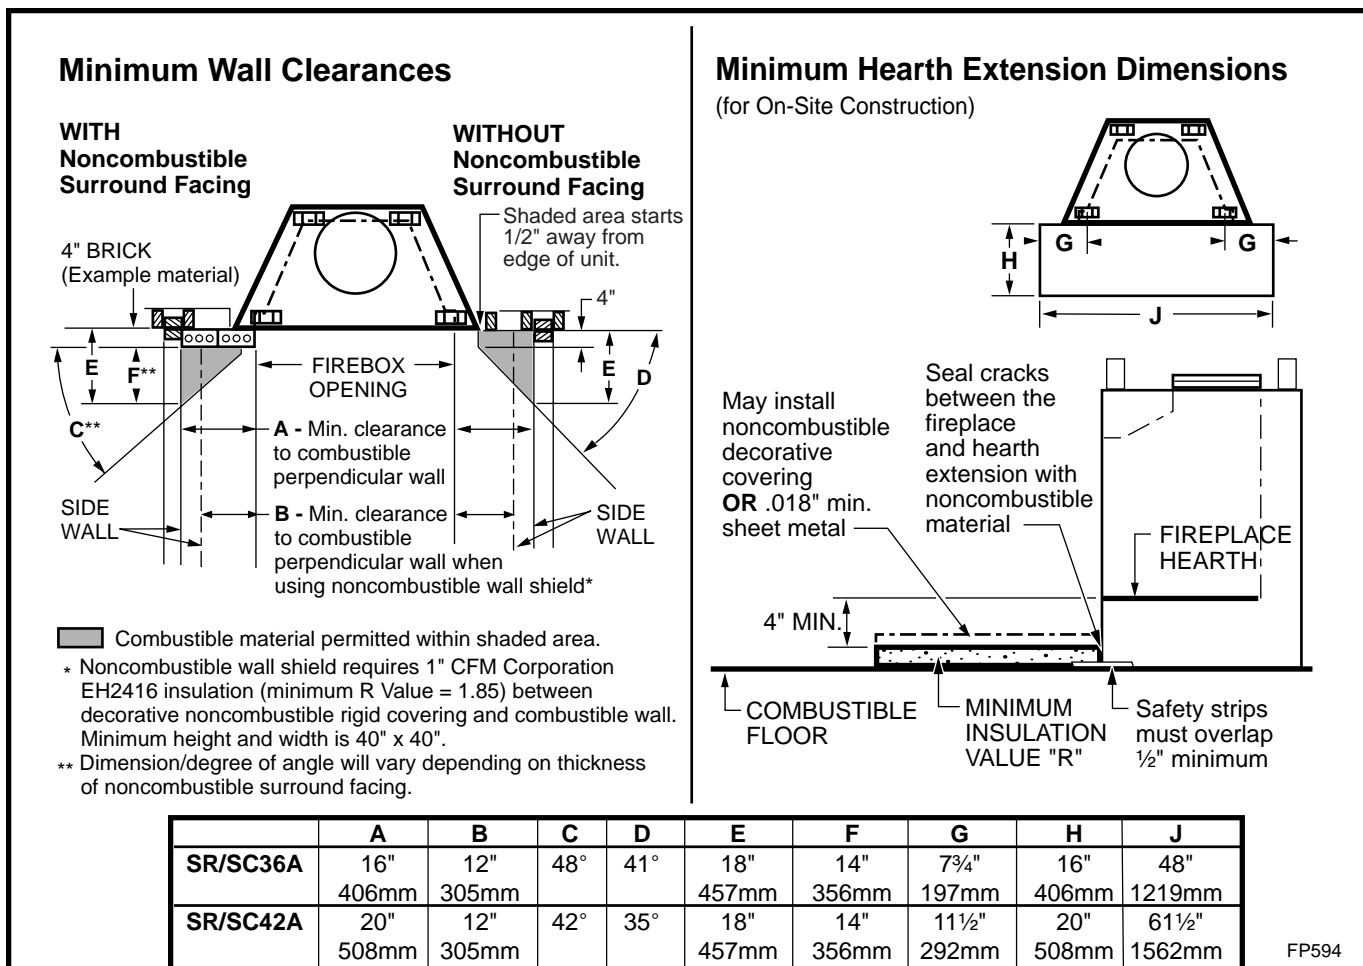

Fig. 23 Combustible side wall protection and hearth extension dimensions.
Often a decorative surround or vertical portion of the mantel is desired. If this is constructed of any combustible material it must be within the safe zone indicated in Figure 23.
Adjacent combustible side walls that are within the minimum dimensions shown in Figure 23 of fireplace opening must be protected with CFM Corporation Wall Shield Model SP40 or a specifically built wall shield described below.
A hearth extension is required to protect a combustible floor in front of the fireplace. Refer to Figure 23 for minimum dimensions and mounting detail.
The hearth extension described in Figure 23 must be a durable noncombustible material with a minimum (total) Rt value of 1.09; refer to Figure 24 for examples. The overall height (above a combustible floor), depth and width must be as indicated, with the extension centered to the fireplace opening.
The top of insulation must be covered with a noncombustible decorative covering **or** a piece of .018" minimum sheet metal, to protect hearth extension material. (Fig. 23)
Secure the hearth extension to the floor to prevent shifting, using trim molding or other similar means at three (3) outer edges. Seal crack between the fireplace hearth and hearth extension with a noncombustible material. (Figs. 23 and 25)
**WARNING: HEARTH EXTENSION MUST BE INSTALLED IN ACCORDANCE WITH FIGURE 23 AND MUST NOT COVER THE BOTTOM FRONT OPENING OF THE CIRCULATING MODEL.**